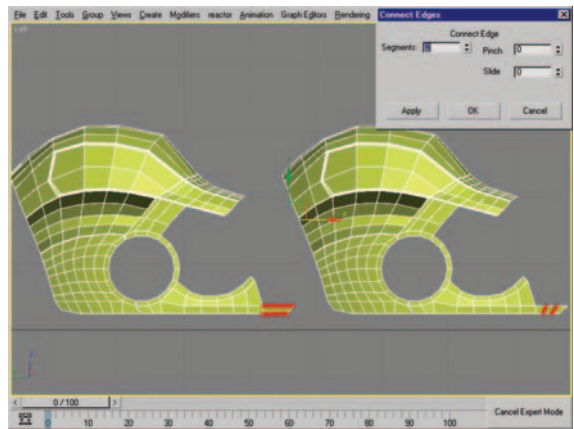

Figure 8.56 Edge selection before (left) and after using Connect (right).
57. Select the two edges seen in Figure 8.56 (left) and use the Connect settings dialog box with a Segments setting of 2 to create two new edges (Figure 8.56, right).